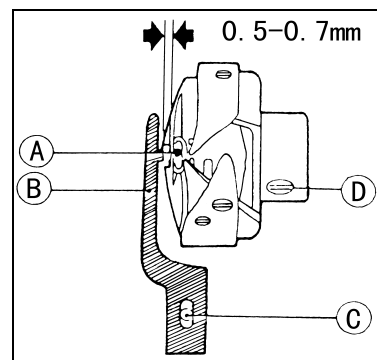

Fig. 21
16. REPLACE ROTATING HOOK (Fig.21)